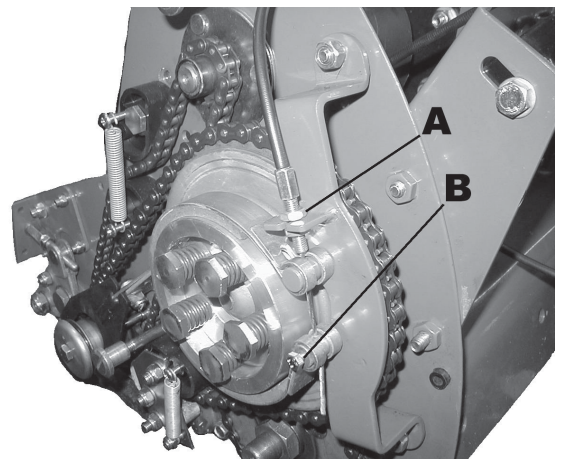

Fig. 8.14a
2. Route brake cable through brake bracket abutment, pull inner cable tight through pivot pin, and secure with screw B (fig 8.14a)
3. With Parking brake lever activated adjust locking nuts (A) in fig 8.14a & 8.14b. To ensure the brake band is exerting enough force on the drum a torque force of xx Nm must be obtained on the Landroll securing nut without rotating.